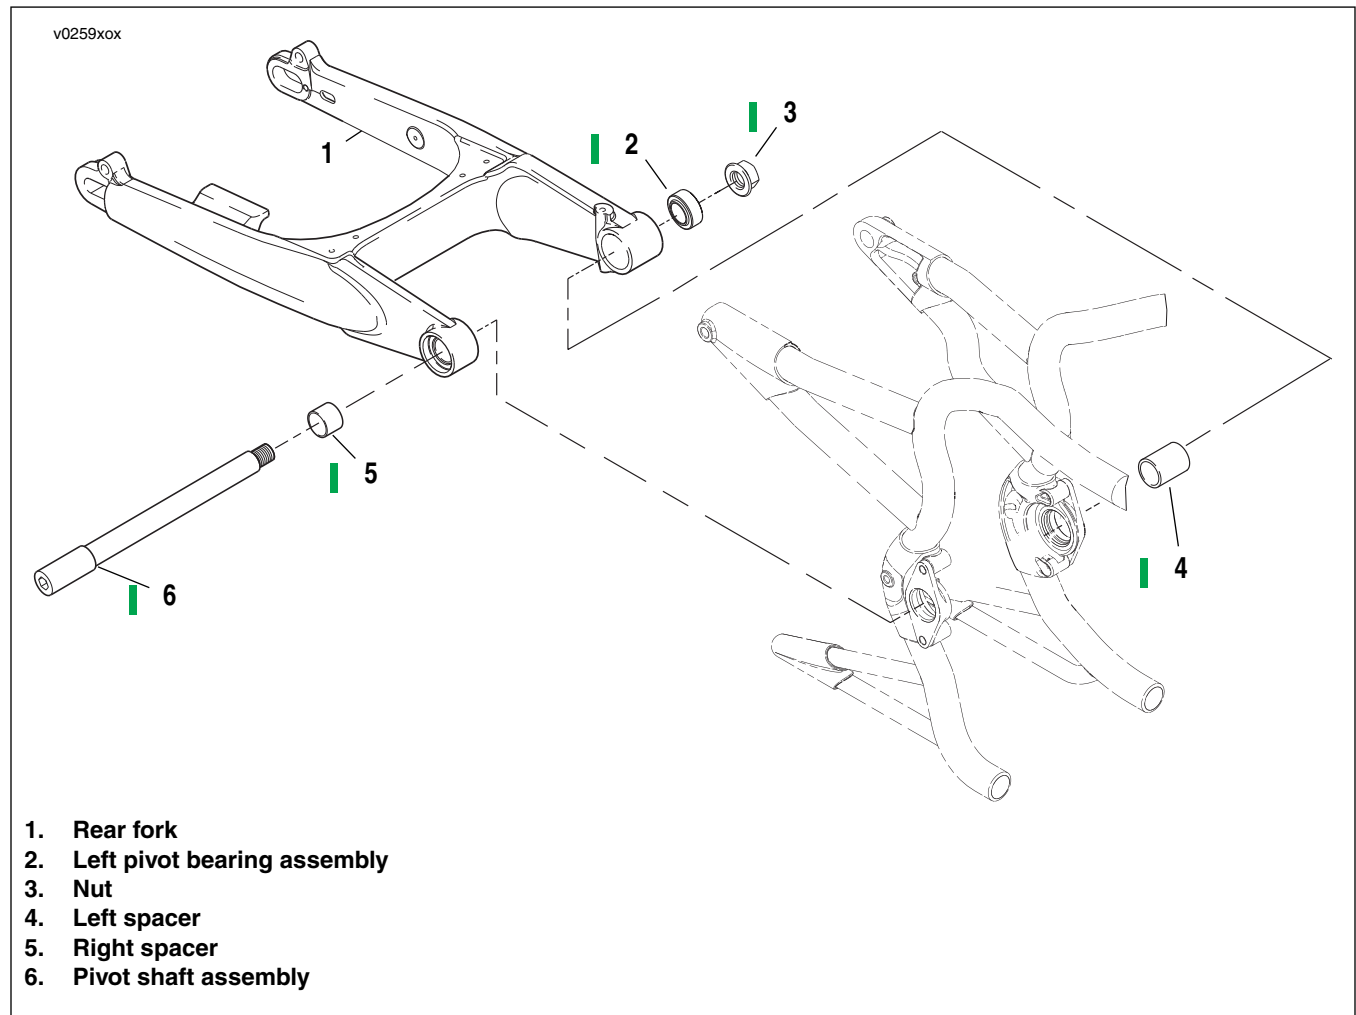

Figure 2-158. Rear Fork (typical)
6. See Figure 2-158. Remove pivot shaft nut (3).
7. Support rear fork and slide pivot shaft (6) out of rear fork (1). Rear fork can now be removed from frame.
7. See Figure 2-158. From right side, slide pivot shaft (6) through dust seals, rear fork pivot bearing, bushing and engine mounts, spacers.